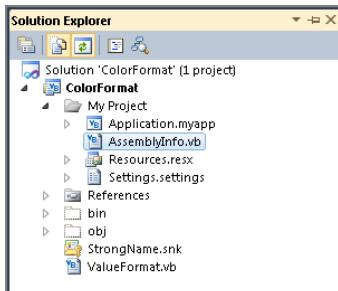

Figure 8-10
- When you are ready to register the `.dll` to the Global Assembly Cache (GAC), set the `<Assembly: AllowPartiallyTrustedCallers()>` property. Without this declaration, applications like Reporting Services are unable to use the assembly. To make this change you must navigate to the Solution Explorer and with the project selected, click the button to Show All Files, as shown in Figure 8-10. Once all the project files are visible, expand `My Project` and open the `AssemblyInfo.vb` file.